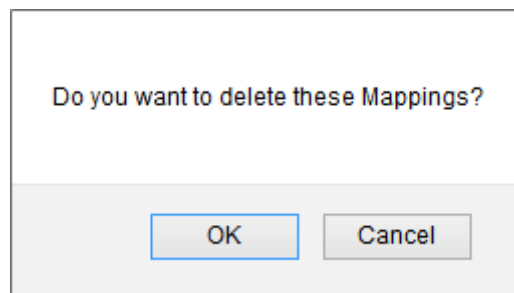

Figure 2.46
6. A pop up appears. Click **OK** to delete or click **Cancel**. (Figure 2.46)